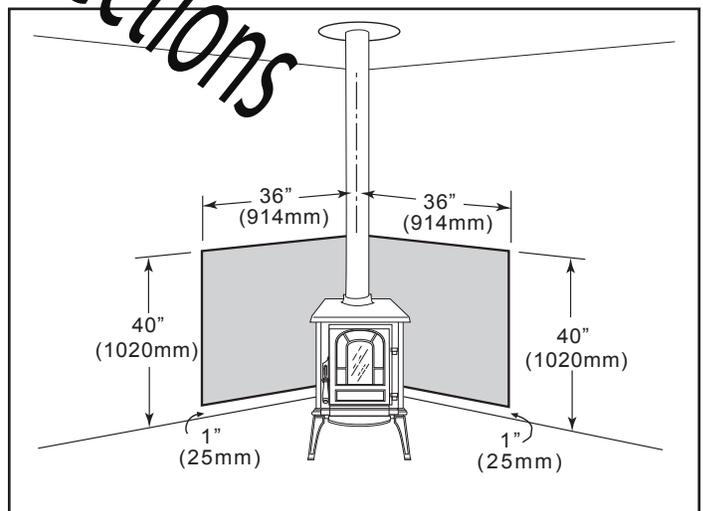

Figure 4.7 - Corner installation, vertical chimney connector, two wall shields.
**Corner installation, vertical chimney connector, two wall shields.** Figure 4.7: Reduced side clearances. Wall shields MUST meet at corner.